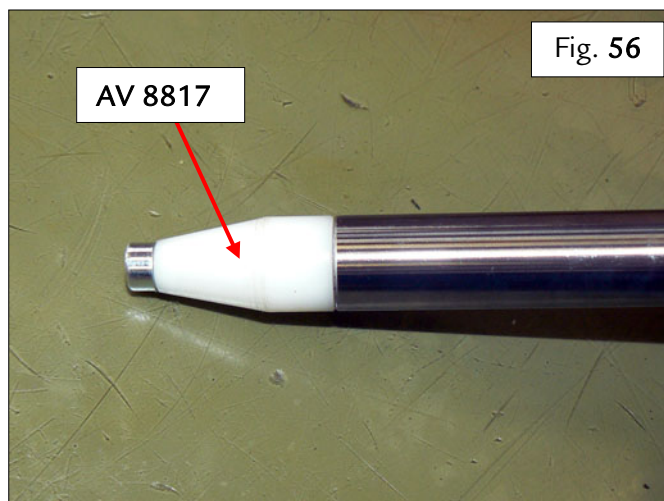

Fig. 56
- Fit the tool **AV 8817** on the longer part of the **1st-3rd** speed fork – Fig. 56.